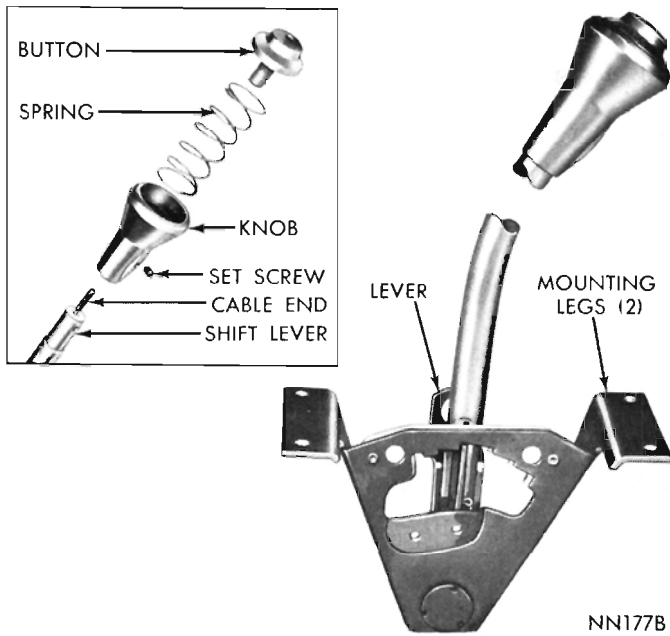

Fig. 8—Console Gearshift Unit
(1) Disconnect negative (ground) cable from the battery.
(2) Remove gearshift knob set screw with an allen wrench (Fig. 8). Unscrew button, spring and knob assembly from cable end and remove from the lever.